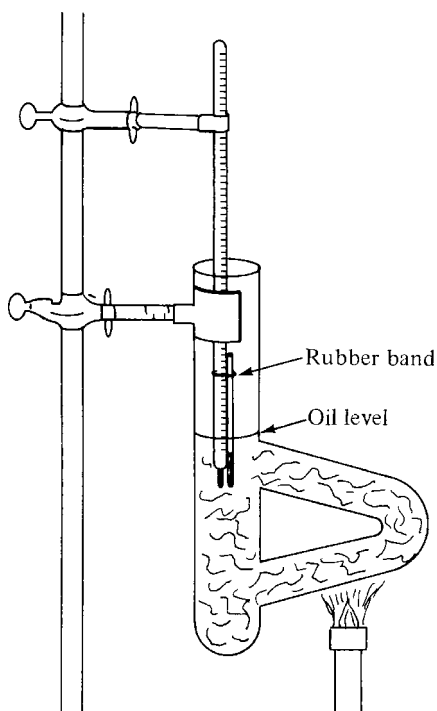

Figure 13.4
- Use an extension clamp to support the Thiele tube on a ring stand. Add mineral oil or silicone oil to the Thiele tube, and fill to a level above the top of the side arm. Use a thermometer clamp to support the thermometer with the attached melting point capillary tube in the oil. The bulb and capillary tube should be immersed in the oil; keep the rubber ring and open end of the capillary tube out of the oil (Figure 13.4).